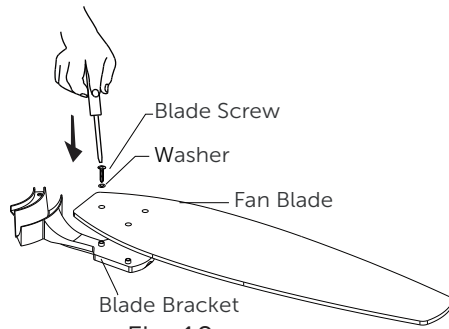

Fig. 10
10. Tighten fan blades to blade brackets by using blade screws and washers (Fig. 10).